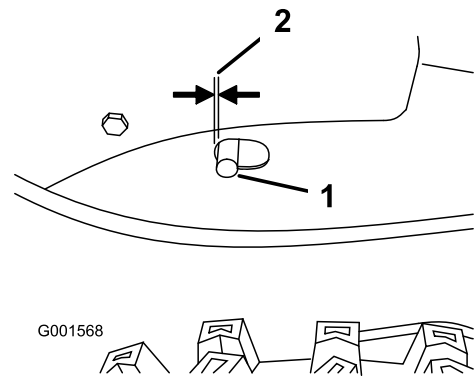

Figure 30
2. With the traction lever disengaged, check the pin in the elongated slot in the left side of the machine above the tire (Figure 30).
Note: There should be a gap of 6 mm (1/4 inch) from the front of the slot to the front edge of the pin (Figure 30).
Note: If adjustment is necessary, refer to (Figure 30).